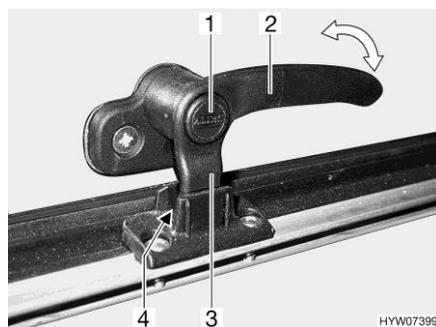
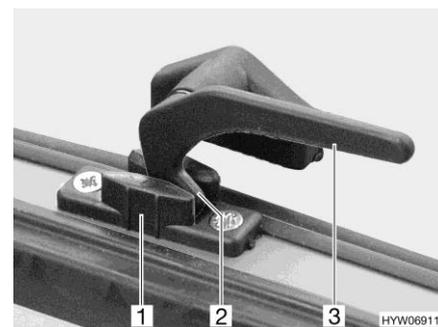

Fig. 120 Catch lever with safety knob in "continuous ventilation" position
Fig. 121 Catch lever in "continuous ventilation" position
- "Continuous ventilation" (Fig. 120 and Fig. 121)
- Press and hold the security button (Fig. 120,1), if present.
- Turn all catch levers (Fig. 120,2 or Fig. 121,3) a quarter turn towards the centre of the skylight.
- Return all catch levers to their initial position. The locking catch (Fig. 120,3 or Fig. 121,2) has to be moved into the recess of the skylight lock (Fig. 120,4 or Fig. 121,1).